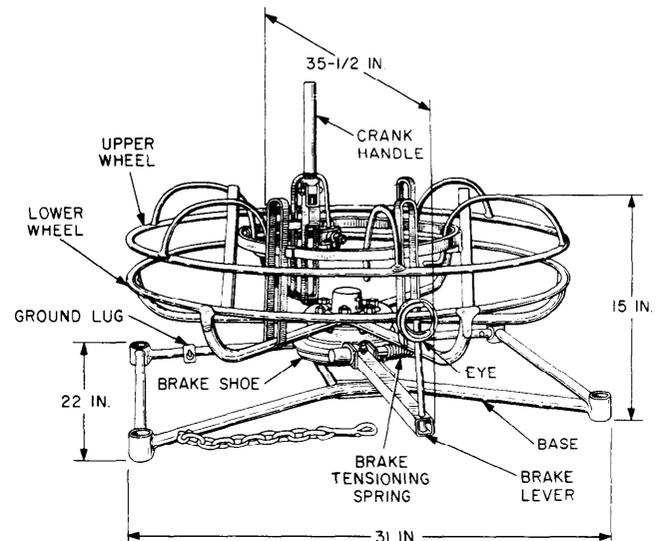

Fig. 1—B Line Wire Reel
**2.01** The B Line Wire Reel (Fig. 1) weighs approximately 70 pounds and consists of the following components: